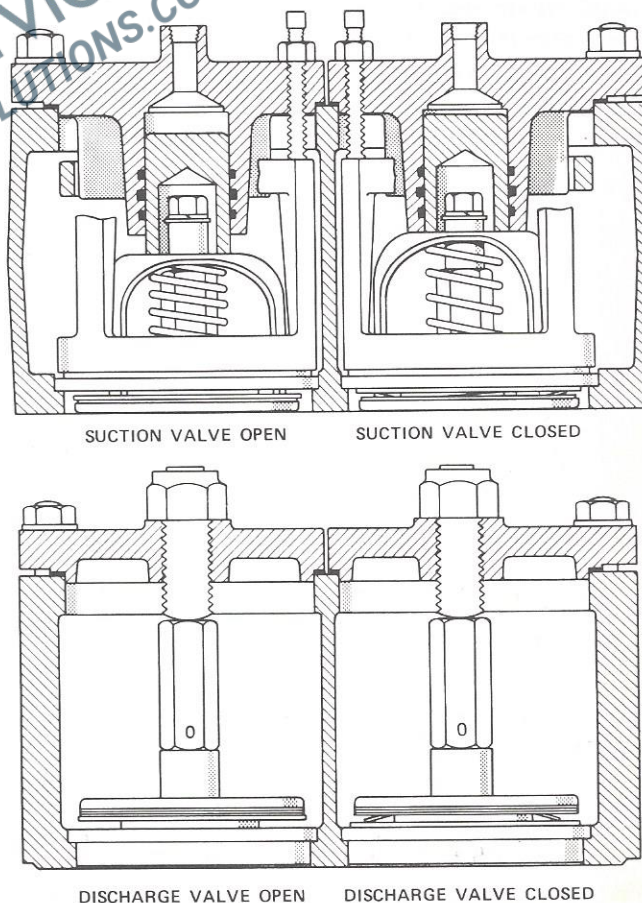

Figure 14 — Valve Assemblies
- d. Lift out valve assemblies. (See Figure 14)